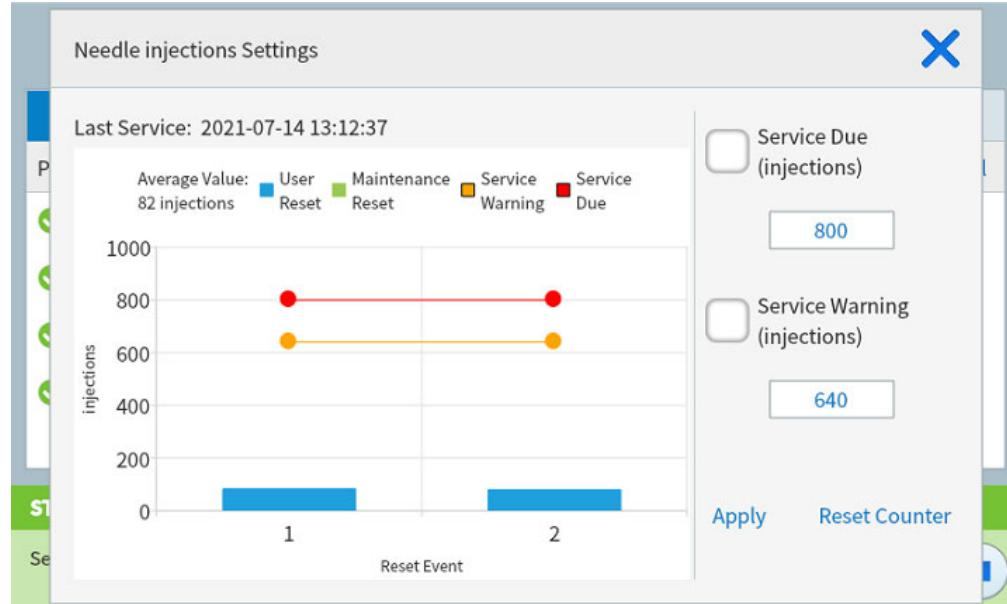

Figure 39. Settings dialog box
- 2 Select the **Details** listing for the counter you want to change. The dialog includes a trend plot for past reset events for this counter. See Figure 39.